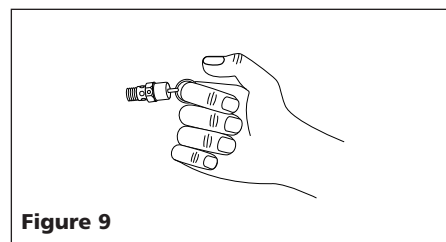

Figure 9
1. Pull ring on safety valve and allow the ring to snap back to normal position (See Figure 9). This valve automatically releases air if the tank pressure exceeds the preset maximum.